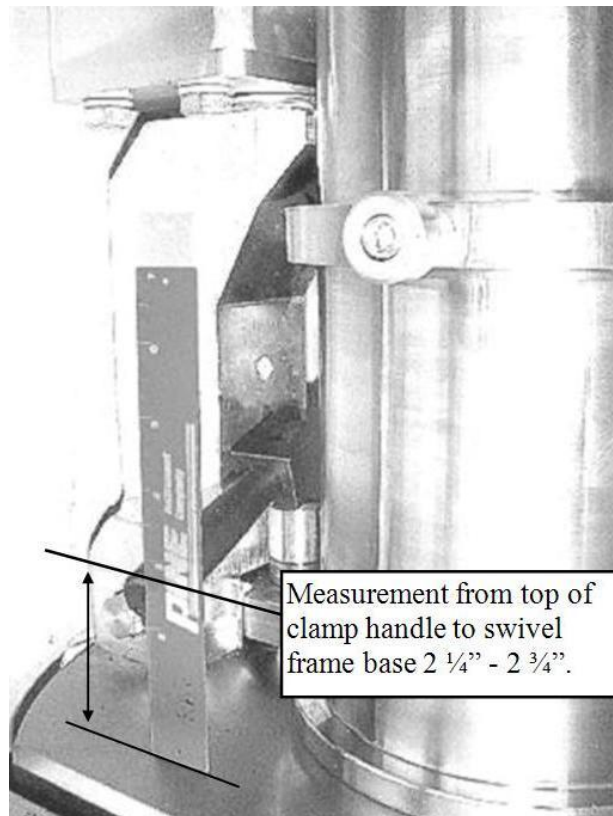

Figure 6.8: Mold Clamp Handle Position
- Measure the distance from the base to the top of the clamp handle. (Reference Figure 6.8)
The ram drive belt tension should be checked every 25 run hours. To check the timing belt tension, remove power from the machine and remove the belt guard on the bottom of the machine. The belt should have between $\frac{1}{4}$ " and $\frac{1}{2}$ " of movement for proper tension. To tighten the belt, loosen the screws that mount the ram drive assembly (Figure 6.8) and slide the ram drive assembly to tighten the belt. Be sure to keep the pulleys aligned. Do not over tighten the belt. Re-tighten the screws and re-check the ram drive belt for proper tension.